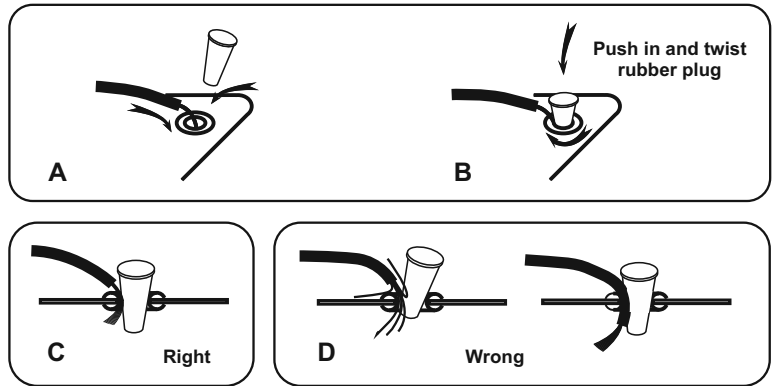

fig. 2: Fixing of conductors in contact sockets
- **Attach the stripped wire ends into the sockets as shown in Fig. 2** using the rubber pins so as to be in reliable contact. Only then can electric current go through and models can not function properly. If the wire only lightly touches the socket and is not properly secured with a rubber plug, while current can flow, but this poor connection acts as an unwanted electric resistance, which can in some models affect their performance.